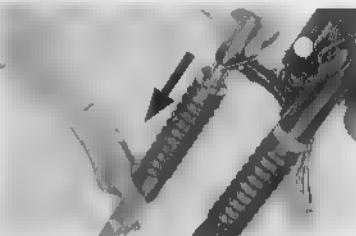

Fig. 4.20 Removing front cushion
① Fork top bridge plate
- 2 Disassemble the front cushion ② in accordance with 4-3 B. (Fig. 4.20)